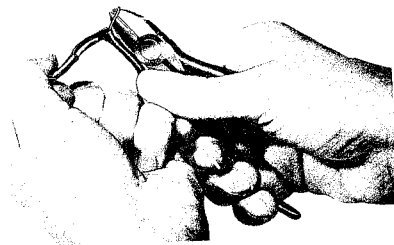
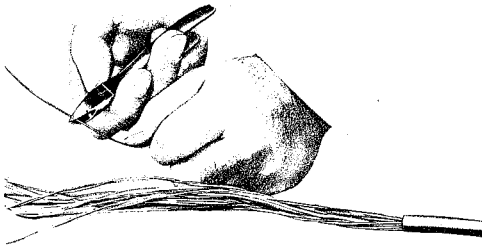

Fig. 5 — Skinning Jacketed Wire
Fig. 8 — Skinning Conductors of Inside Wiring Cable
4. SKINNING CONDUCTORS (STATION WIRE, BLOCK WIRE, AND CABLE), FIG. 5, 6, 7, 8, AND 9
- (1) Grasp the end of the wire with one hand. Cut into wire with diagonal pliers at approximately 4 inches from the end, deep enough to sever (2) conductors only. (Fig. 5).
(2) Grip the end of both conductors, as illustrated in Fig. 5, and pull at an approximately 45° angle to cable. Do not exert too much pressure on diagonal pliers to avoid cutting conductors. Rip approximately 6 in. of cable jacket.
(3) Release pliers and grasp both conductors with hand. Continue pulling until the desired length of conductors are exposed.
(4) Cut off end portion at point of initial cut in Step 1.
(5) Remove insulation on conductors as shown in Fig. 8.